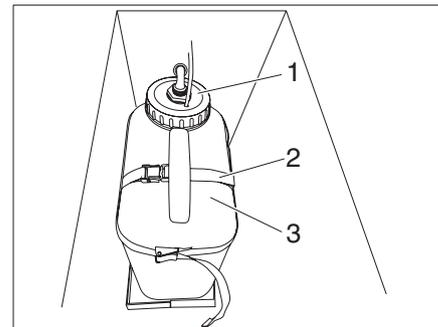

Fig. 84 Water tank for external shower
The water tank (Fig. 84) for the external shower is located on the left side of the vehicle under the access flap in front of the gas cooker.
- ▶ Loosen the fastening straps (Fig. 84,2) .
- ▶ Unscrew cover (Fig. 84,1) and remove with submerged pump.
- ▶ Remove the water tank (Fig. 84,3) and fill it.
- ▶ Insert filled water tank, insert cover with submerged pump (Fig. 84,1) and screw tight.
- ▶ Secure water tank with fastening straps (Fig. 84,2) .